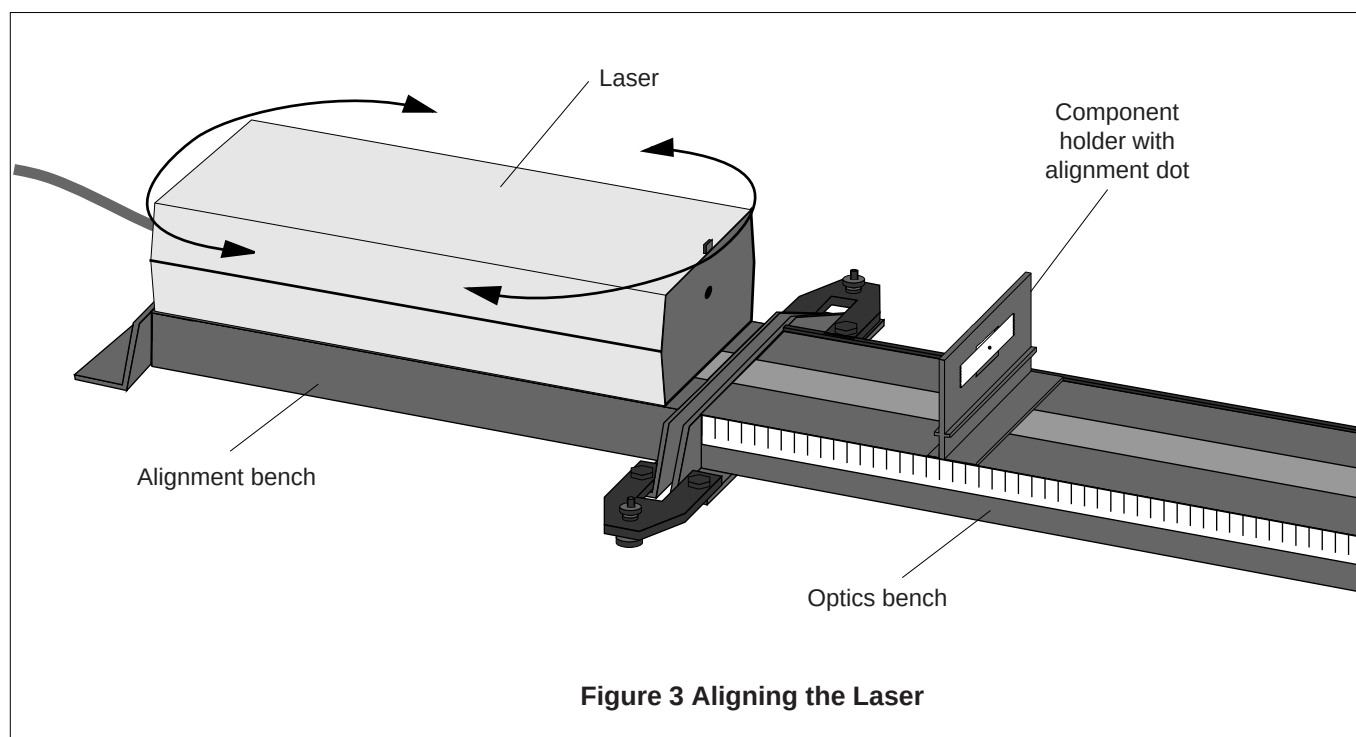

Figure 3 Aligning the Laser
2. Place the laser on the alignment bench, as in Figure 3. Center the laser on the bench, and make sure it is reasonably parallel with the bench.